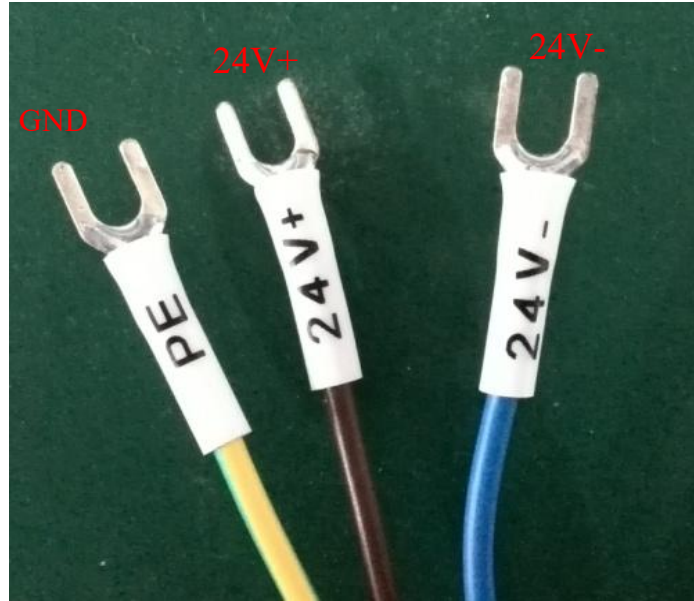

Figure 3 Definition of power line wires
- b) Connect the power line to 24 VDC power and ensure enough DC output power. Keep it clear to the polarity of the electric current: anode-brown; cathode-blue; PE-yellow and green. The definition figure is shown in Fig. 3.